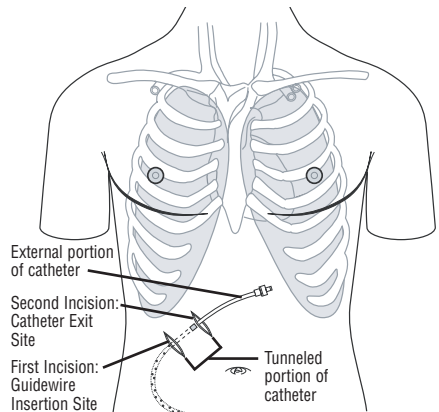

Figure 3
Proper medical and surgical procedures are the responsibility of the physician. The appropriateness of any procedure must be based upon the needs of the patient. **Figure 3** illustrates the placement of the PleurX Peritoneal Catheter, as described in the following procedure.
12. Make a second 1-2 cm incision 5-8 cm superior and medial to the guidewire insertion site. This incision will be the catheter exit site. Consider the patient's ease of access in determining its location. **(Figure 3)**